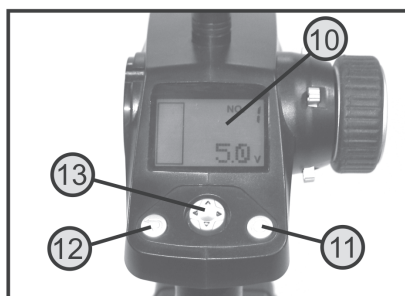

Figure 2
If the display is exactly at "N 0", the exact centre position is reached. The set value is stored automatically. Use the Enter or ESC button (see figure 2, item 11 or 12) to switch back to the operating display.
Use the Enter or ESC button (see figure 2, item 11 or 12) to switch back to the operating display after setting the 100 % value.